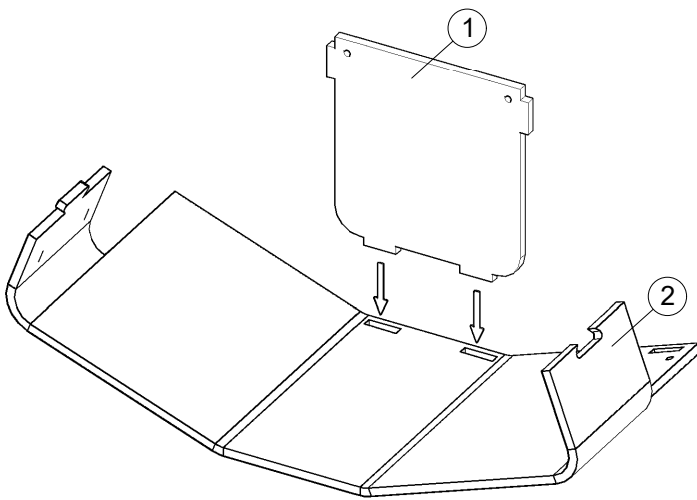

Figure 1
1. Place the PET Surround on a flat surface and insert the PET Back Panel into the bottom holes of the PET Surround, as illustrated in Figure 1.